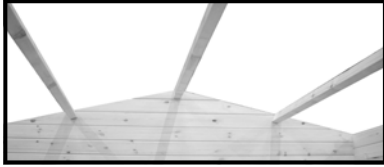

Fig H1
1. Fit roof bearers into slots provided in the gable sections (fig H1 & H2).